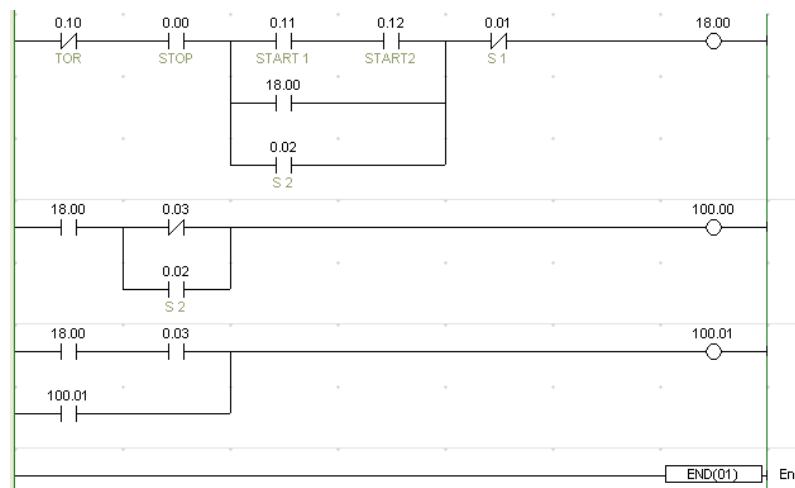

Figure 1: Ladder diagram
- (a) Convert the ladder diagram in **Figure 1** below to Instruction list (9 marks)